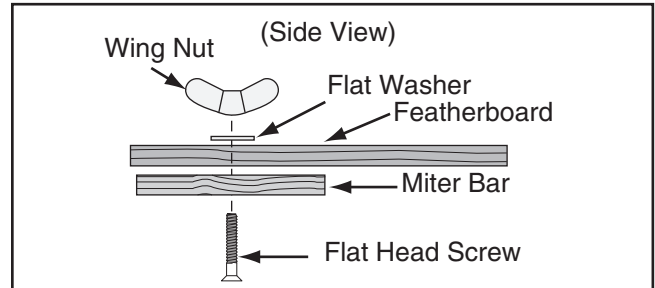

Figure 75. Assembling miter slot featherboard components.
8. Assemble miter bar and featherboard with a $\frac{1}{4}$ "-20 x flat head screw, flat washer, and a wing nut or a star knob (see **Figure 75**). Congratulations! Your featherboard is complete.